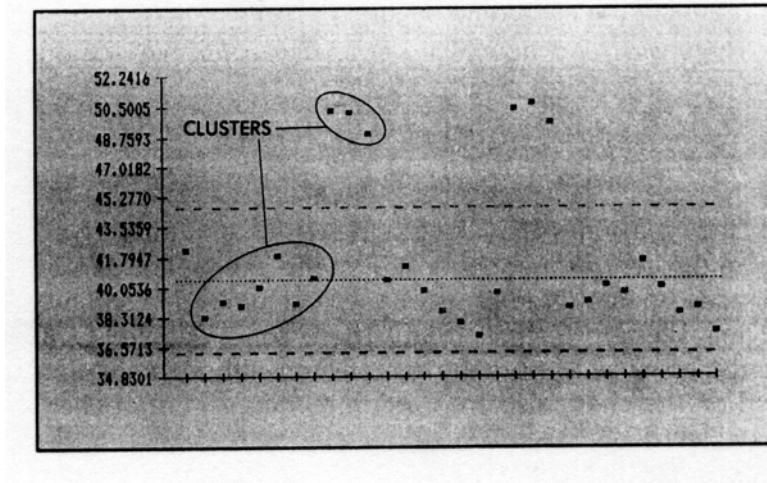

Figure B-8 Cluster Pattern
7. Cluster. The grouping of the points in one area of the chart is an indication of short duration, assignable cause, such as measurement problem, or accidentally sampling for bad group of part as Figure B-8.